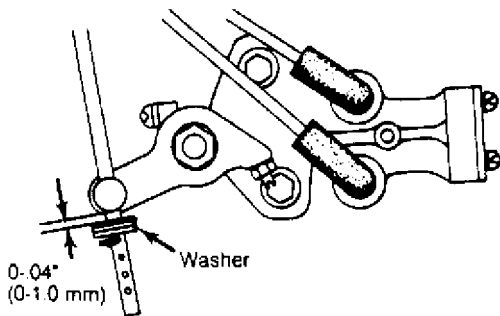

Fig. 31: Adjusting Metering Pump Control Rod
1) Check clearance between metering pump lever and washer. See Fig. 31. Clearance must be no more than .04" (1.0 mm).